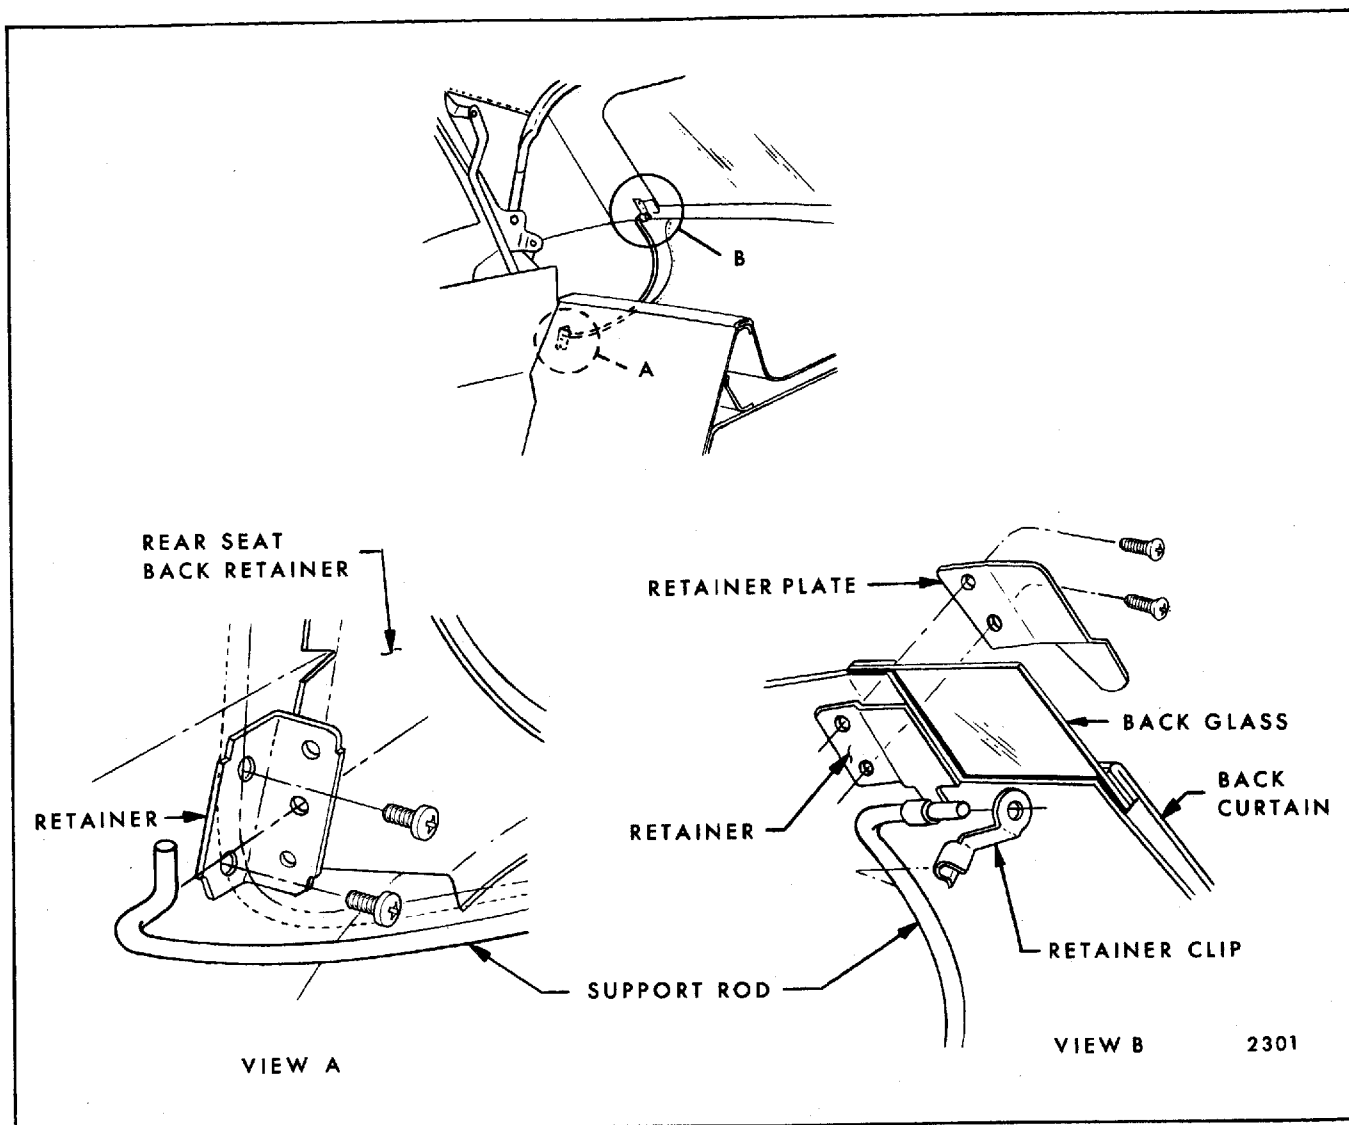

Fig. 6-1—"B & C" Body Back Glass Support Rod Attachments
6. On styles equipped with back glass support rods, disengage right and left rods from back curtain (Fig. 6-1).